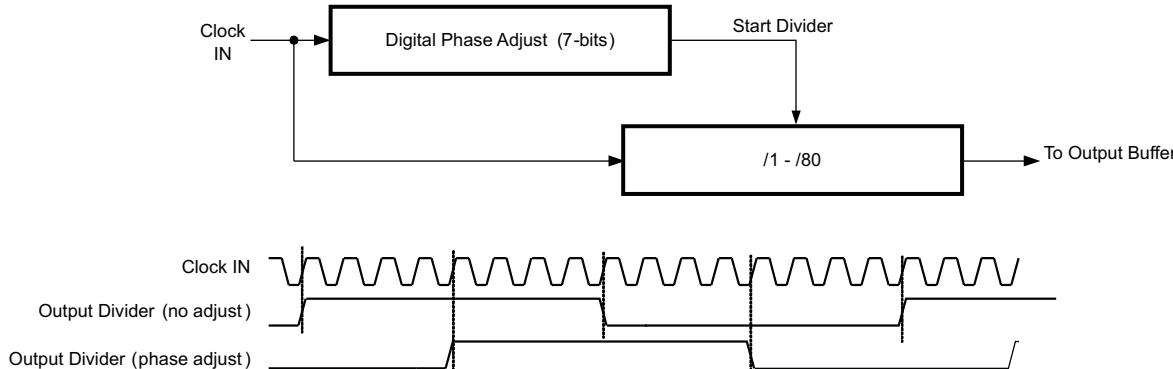

Figure 25. CDCE18005 Phase Adjust
Figure 25 provides an overview of the Digital Phase Adjust feature. The output divider includes a coarse phase adjust that shifts the divided clock signal that drives the output buffer. Essentially, the Digital Phase Adjust timer delays when the output divider starts dividing; thereby shifting the phase of the output clock. The phase adjust resolution is a function of the divide function. Coarse phase adjust parameters include:
- Number of Phase Delay Steps – the number of phase delay steps available is equal to the divide ratio selected. For example, if a Divide by 4 is selected, then the Digital Phase Adjust can be programmed to select when the output divider changes state based upon selecting one of the four counts on the input. Figure 25 shows an example of divide by 16 in which there are 16 rising edges of Clock IN at which the output divider changes state (this particular example shows the fourth edge shifting the output by one fourth of the period of the output).